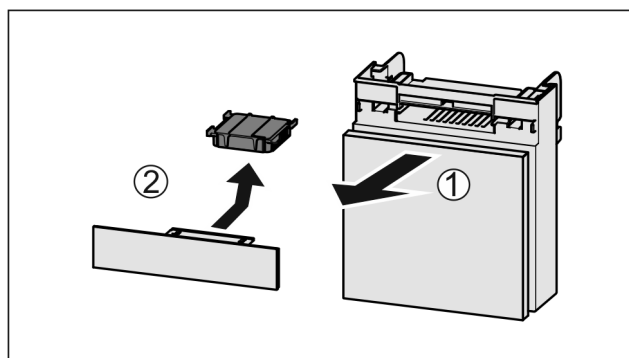

Fig. 183
- ▶ Pull out the compartment Fig. 183 (1).
- ▶ Remove the carbon filter Fig. 183 (2).